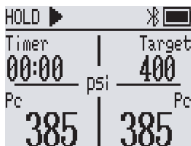

Figure 2 Enter the holding pressure test interface
❶ The high-voltage side channel is the system pressure-holding test terminal.
2.**Enter the holding pressure test** : press the  and  button at the same time , the upper left corner of the window displays **HOLD** (Figure 2).